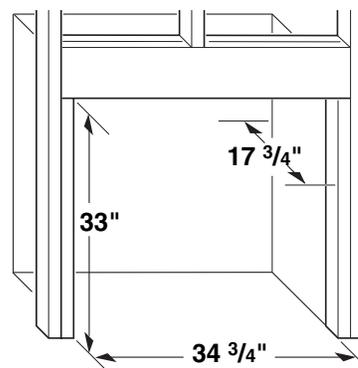
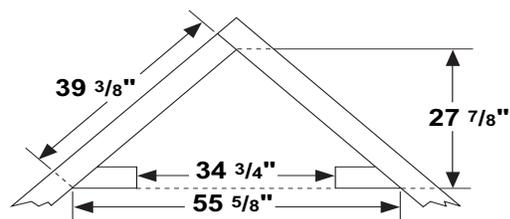

Figure 18 - Rough Opening for Installing in Wall
Figure 19 - Rough Opening for Installing in Corner
- Frame in rough opening. Use dimensions shown in Figure 18 for the rough opening. If installing in a corner, use dimensions shown in Figure 19 for the rough opening. The height is 33", which is the same as the wall opening in Figure 18.